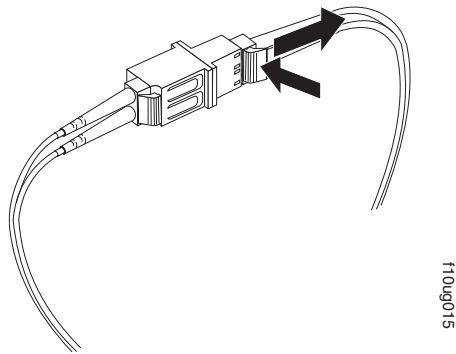

Figure 43. Removing the LC-LC fibre-channel cable from an LC-SC fibre-channel cable adapter
2. Carefully pull on the connector to remove it. Make sure you grasp the connector and not the cable when removing the LC-LC cable from the LC-SC cable adapter as shown in Figure 43.